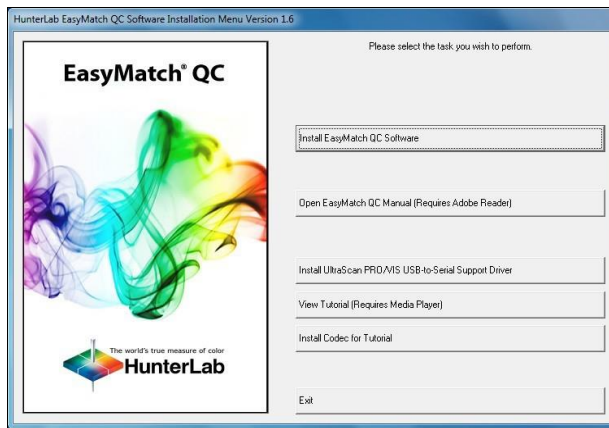

Figure 11. EasyMatch Installation
- a. If the user has a HunterLab USB hardware key, then it can be used with a new sensor on the same computer. Return to **INSTALL THE SOFTWARE**, Step 5 (Figure 11) and select **SENTINEL KEY** to continue.